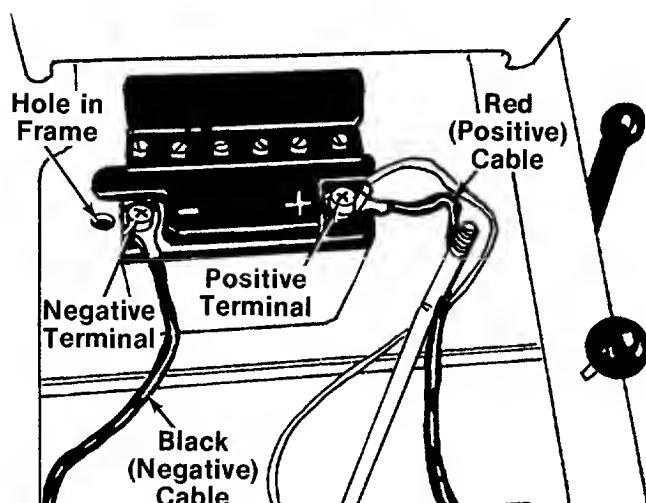
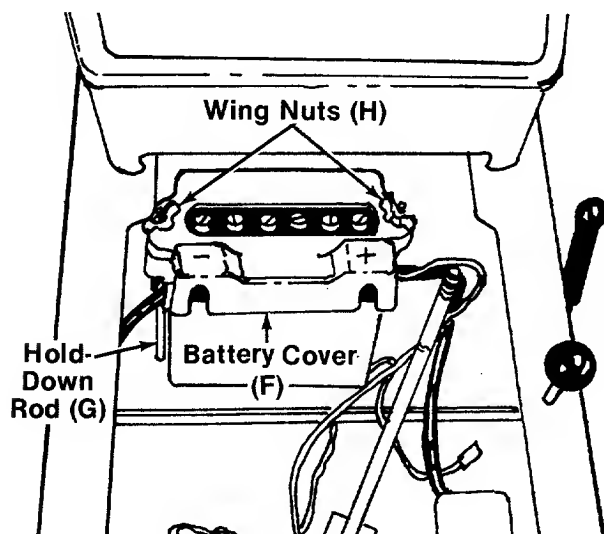

FIGURE 7.
FIGURE 8.
4. Place the battery in the lawn tractor so that the positive terminal is facing the right side of the unit. See figure 7.
5. Slide the square nut (provided with battery hardware) into the positive (+) terminal. Place the positive (heavy red wire) cable and the small red wire on the positive terminal. Secure with screw and lock washer provided. See figure 7.
7. Hook one hold-down rod (G) into the hole in the frame beside the battery. See figure 7. Place the battery cover (F) in position over the hold-down rod. Secure with wing nut (H). Attach other hold-down rod to the other side of battery cover in the same manner. See figure 8.